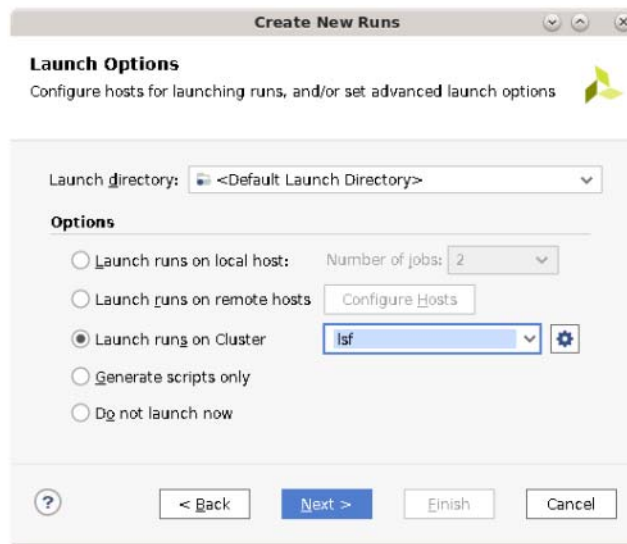

Figure 2-2: Implementation Launch Options
4. The Launch Options screen appears, as shown in Figure 2-2. Specify options as described in the steps below the figure.
Note: The **Launch runs on remote hosts** and **Launch runs on Cluster** options shown in Figure 2-2 are Linux-only. They are not visible on Windows machines.